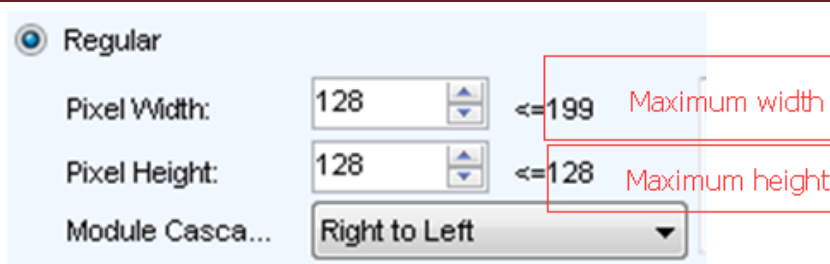

Fig. 7-17 The regular cabinet info panel
Pixel array size and module cascade direction can be set in this panel. Note that the Regular panel is for regular shape cabinet parameters setting and the Irregular panel is for irregular shape cabinet parameters setting. (Irregular shape cabinet is not supported by this version) Shown in Fig. 7-17 is the Regular Cabinet Info panel which is circled and marked as area 1 in Fig. 7-16.
- 1) Adjust the parameters in the Performance Setting panel (Fig. 7-18) until the Maximum Width and Height shown in the Cabinet info panel (Fig. 7-17) are larger than the pixel array size of the cabinet. Then click  in Fig. 7-16.